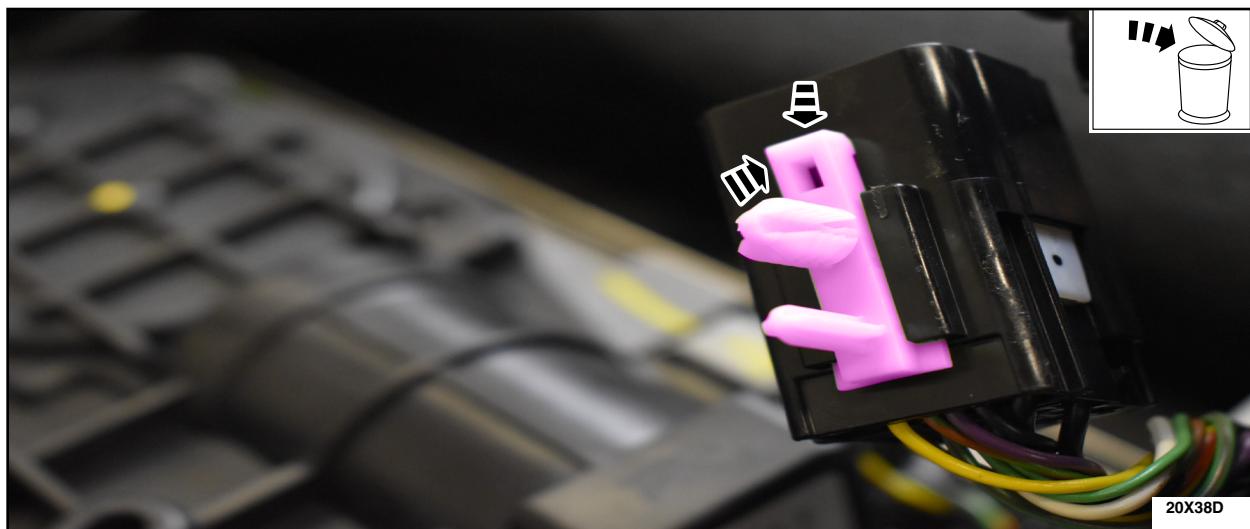

FIGURE 5
6. Remove and discard the electrical connector push pin retainer. See Figure 5.
7. Install *new* electrical connector push pin retainer by reversing the removal steps. See Figure 5.